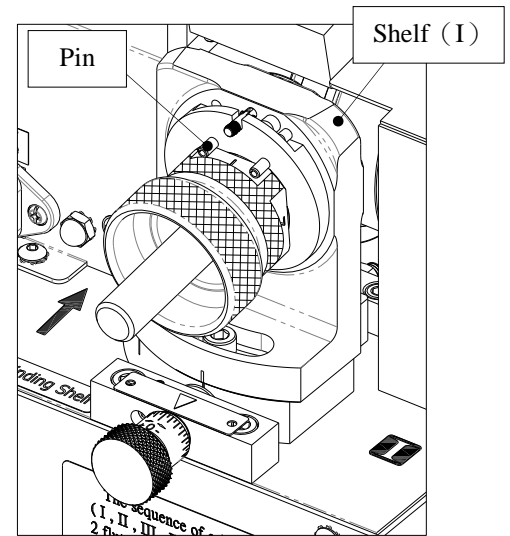

Fig. 19-1
1. 4 Flute Secondary Relief Grinding (I) (Fig. 19-1)
- ① Insert the Chuck set into Shelf (I), align Slot No.1 of the Chuck set with the two pins on the shelf, gently push the Chuck set into the shelf until the grinding noise stops.
- ② Take out the Chuck set; turn it to Slot No.2, align Slot No.2 of the Chuck set with the two pins on the shelf, gently push the Chuck set into the shelf until the grinding noise stops.
- ③ Take out the Chuck set; turn it to grind the Slot No.3 and Slot No.4 with the same procedure.